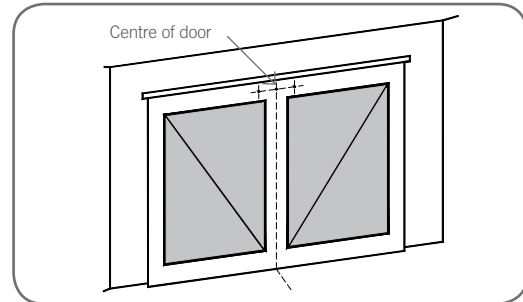

Fig. 16
- Draw two lines 21.5mm either side of this (Fig. 16).